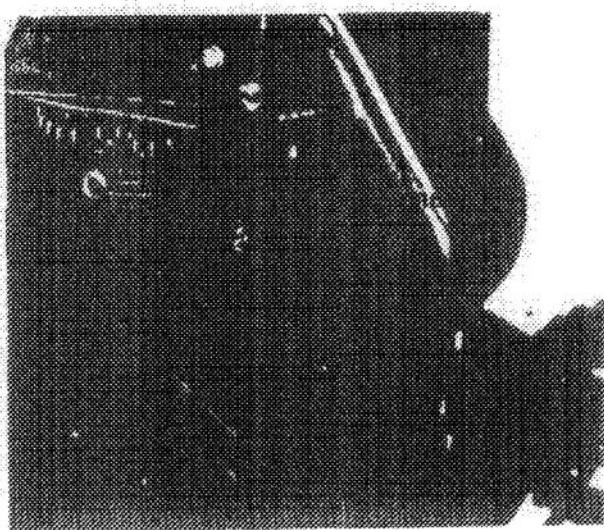

Figure 19
1. Power Adjusting Screw (Fig. 19) - Close screw by gently rotating it clockwise until a slight seating resistance is felt. Next, rotate power adjusting screw  $\frac{7}{8}$  of a turn counterclockwise.
2. Idle Adjusting Screw (Fig. 19) - Close screw by gently rotating it clockwise until a slight seating resistance is felt. Next, rotate idle adjusting screw 1 full turn -  $360^\circ$  - counterclockwise.